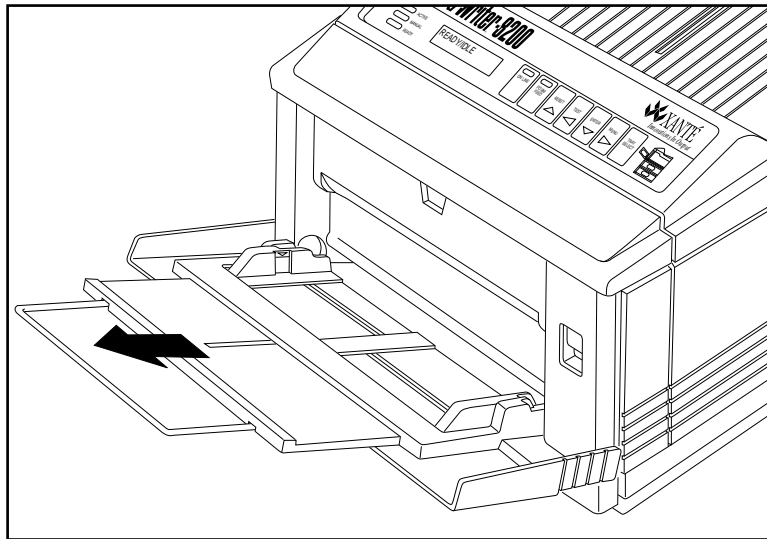

Fig. 2.15 Pull Out the Tray Extender
2. Pull out the tray extender (fig. 2.15).